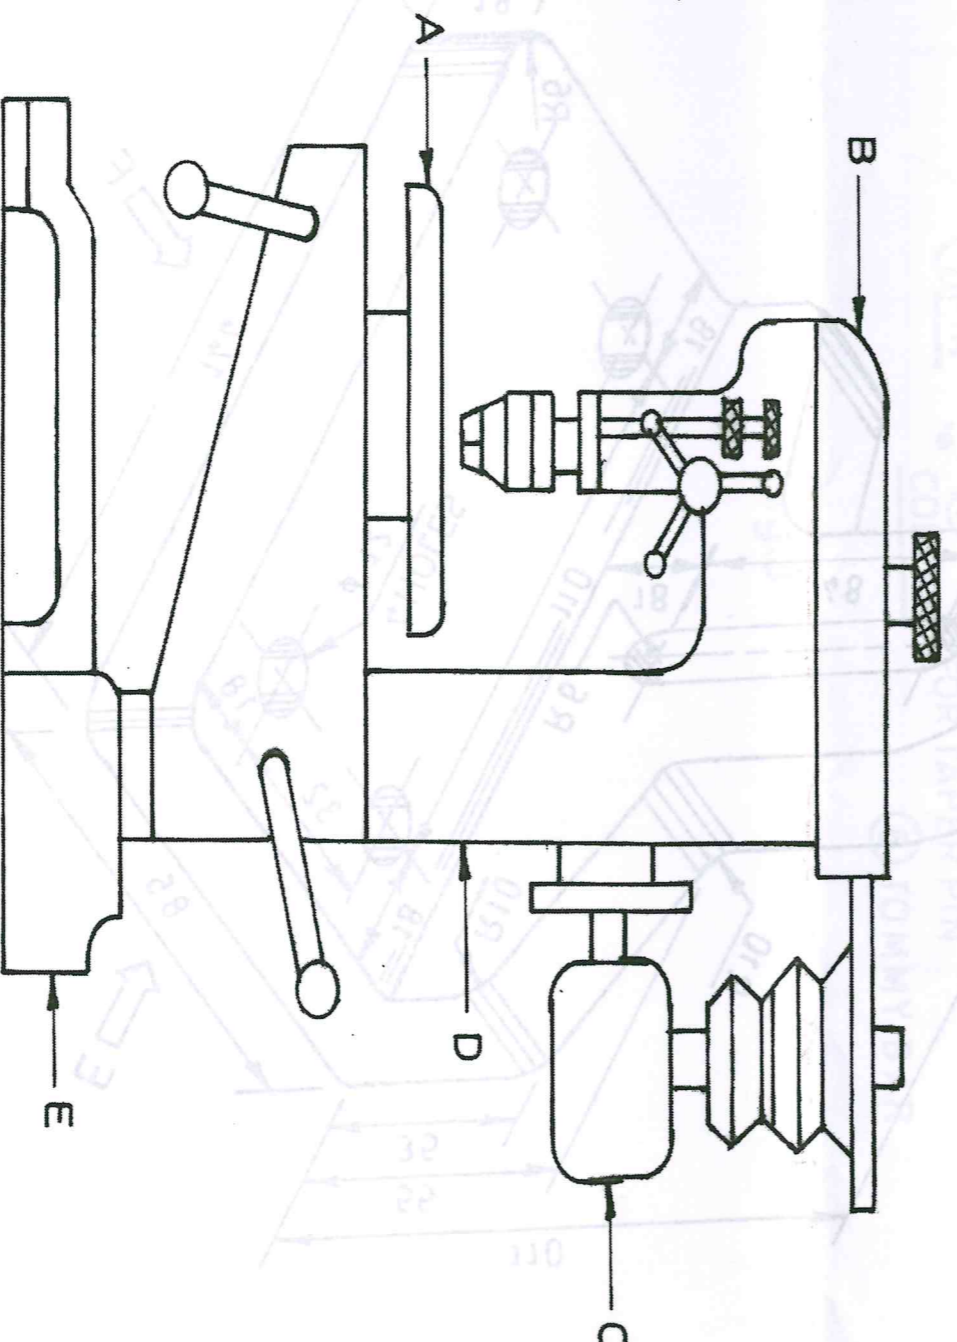

Fig.1 S.P.19
- (d) **Figure 1** shows a bench drilling machine. Name and state the functions of the parts labelled A - E. (10 marks)